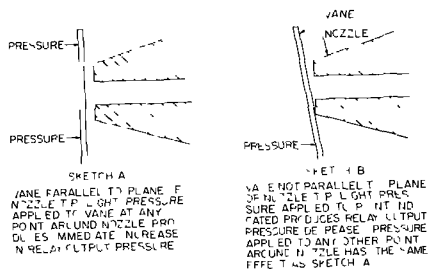

FIGURE 4 Vane and Nozzle Alignment
- Press lightly with pointed instrument against vane, as shown in Figure 4, at four or more points around nozzle tip (above, below, and on either side).
effect shown and described in Sketch B of Figure 4, either vane is not parallel to plane of nozzle tip or there is a burr on nozzle tip